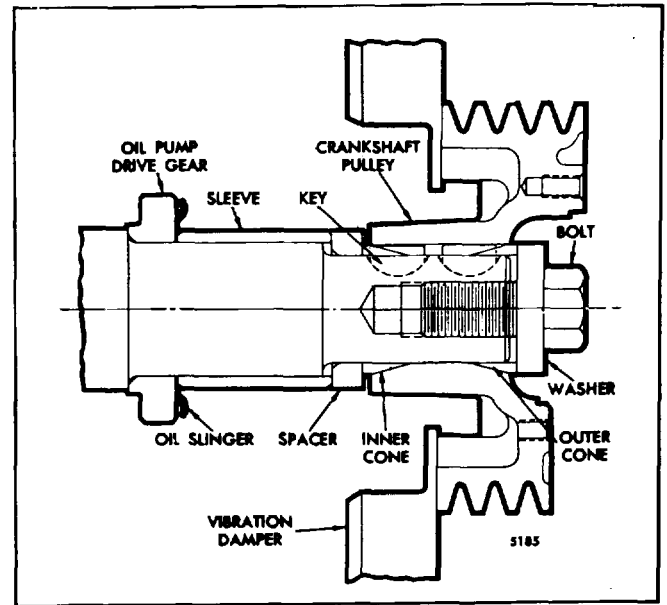

Fig. 4. Vibration Damper and Crankshaft Pulley Assembly Mounting
**NOTE:** When the vibration damper and crankshaft pulley are bolted together and mounted on the front end of the crankshaft (Fig. 4), extra precaution should be taken to be certain that the inner cone does not prematurely clamp to the crankshaft.